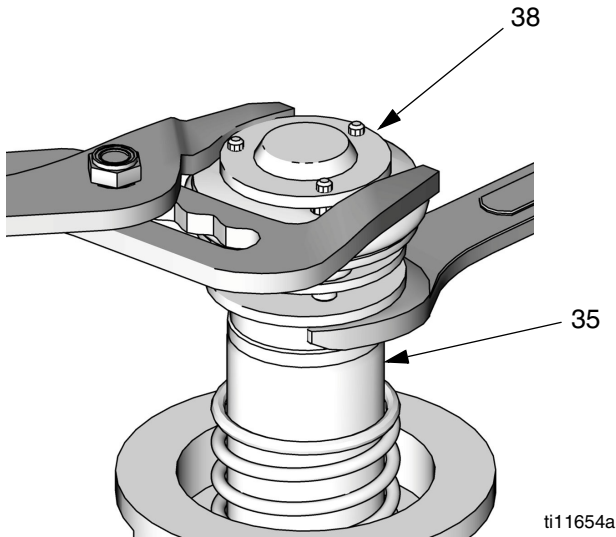
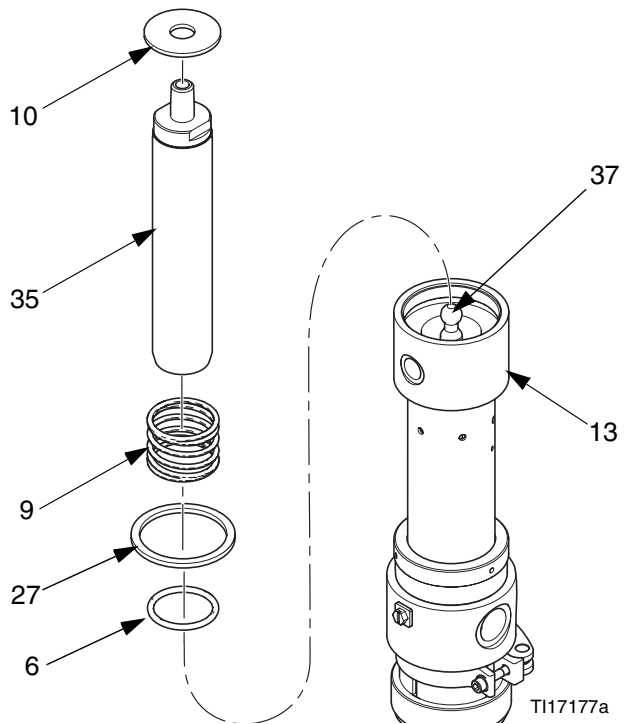

FIG. 11
FIG. 13
- Use a pliers on the top plate of the air valve piston (38) and a wrench on the piston rod (35) to unscrew the air valve piston from the piston rod. See FIG. 11.
- Remove washer (10), lower spring (9), and gasket (27). Inspect for wear or damage and replace as necessary. See FIG. 13.
- Reinstall o-ring (6). Reconnect the piston rod (35) and the pump connecting rod (37). See FIG. 13.
- Reinstall the gasket (11), spring (9), and washer (10). Reassemble the piston (38). Apply thread sealant to the threads of the piston rod (35) and carefully screw the piston (38) onto the rod. See FIG. 11 and FIG. 13.